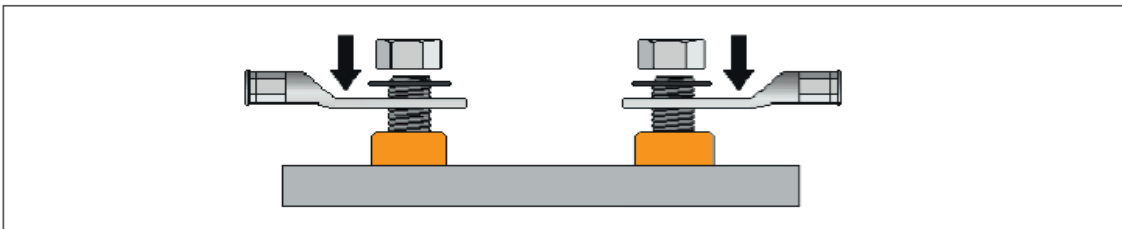

Fig. 5-12: HV SBM(L) evo, HV-/HV+ shielding, fixing the ring terminals with the M6 nuts
- ☞ Place the ring terminals on the threaded bolts as shown in Fig. 5-12.